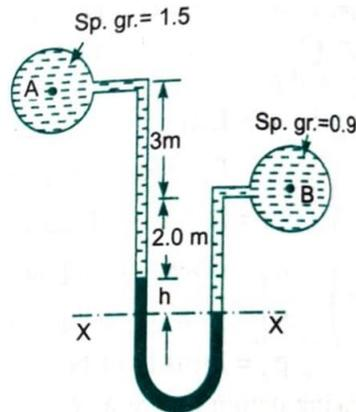

Figure 1
11. a) A differential manometer is connected at two points A and B of two pipes as shown in Figure 1. The pipe A contains a liquid of specific gravity 1.5 while pipe B contains a liquid of specific gravity 0.9. The pressures at A and B are $9.81 \times 10^4 \text{ N/m}^2$ and $17.7 \times 10^4 \text{ N/m}^2$ respectively. Find the difference in mercury level in the manometer. 8 CO1 [K₃]